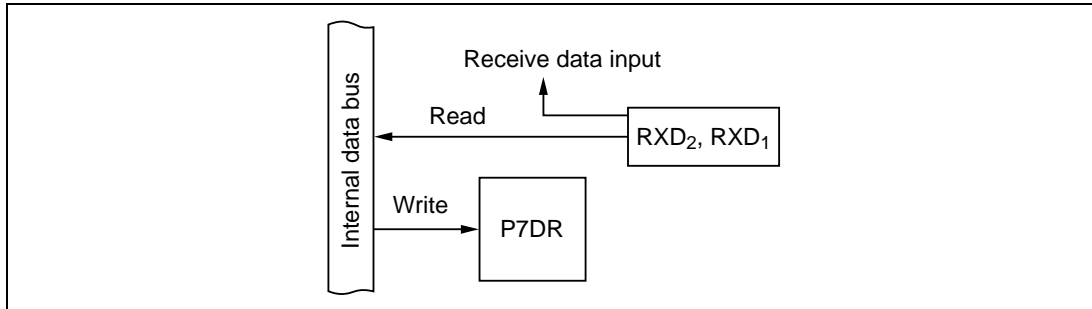

Figure 10-50 RXD₂ and RXD₁ Input (Modes 1 to 7)
(6) RXD₂ and RXD₁ Input (P7₅ and P7₃; Modes 1 to 7): Figure 10-50 shows a block diagram illustrating the RXD₂ and RXD₁ input function. Table 10-40 indicates register read/write data. When P7₅ and P7₃ are used for RXD₂ and RXD₁ input, the value written in P7DR is ignored, but P7DR can be read to monitor the levels at the RXD₂ and RXD₁ pins (to detect the line break state, for example).